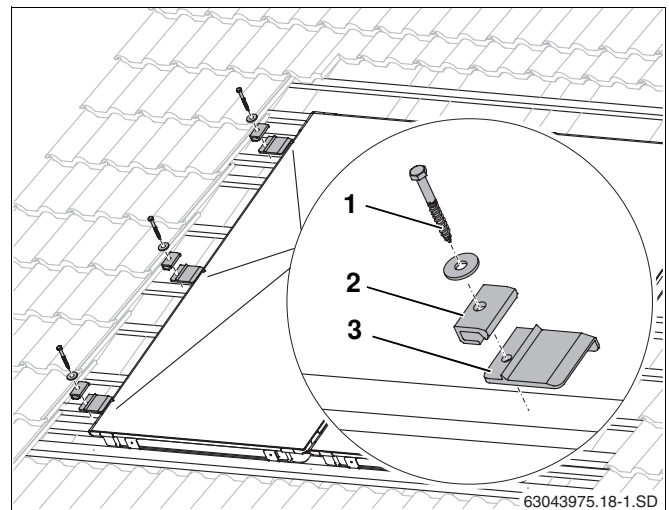

Fig. 30 Fitting the left-hand clamps
- Lift left-hand collector slightly and, on the 2nd and 3rd additional battens, as well as halfway along the collector on a free batten, push the left-hand pack plates (Fig. 30, **Item 3**) under the collector until the roof pushes against the lower edge of the collector.
- For the screw (Fig. 30, **Item 1**) drill a pilot hole with a 4 mm drill.
- Fasten the single-sided clamps (Fig. 30, **Item 2**) with a 6x40 screw (Fig. 30, **Item 1**) and washer (use size 10 spanner).